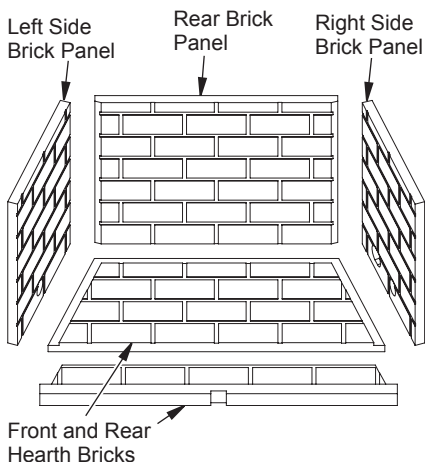

Figure 8 - Identifying Refractory
2. Arrange panels on top of packing and identify each piece in order of assembly (see Figure 8).